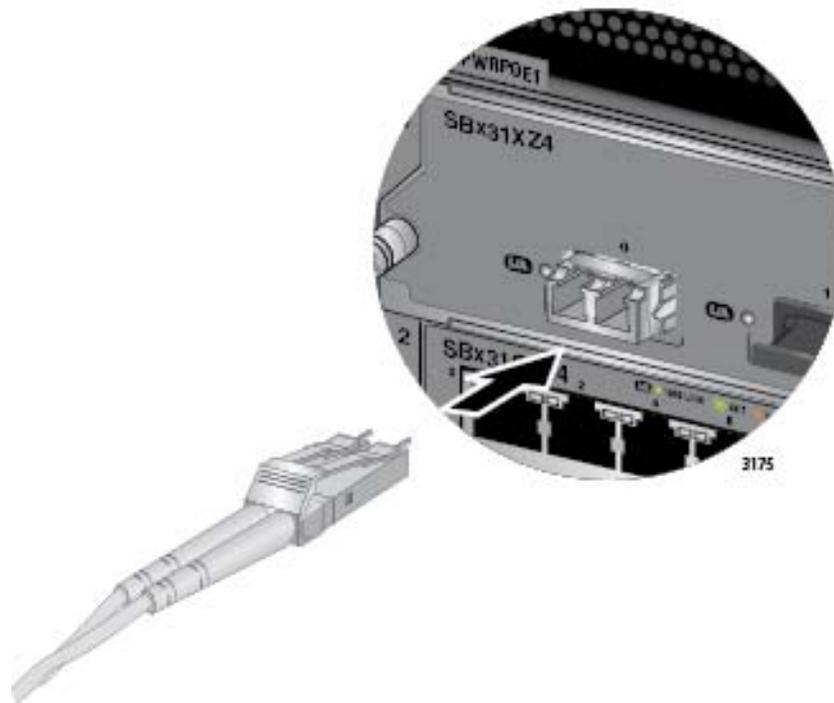

Figure 103. Attaching a Fiber Optic Cable to an XFP Transceiver in the AT-SBx31XZ4 Line Card
6. Connect the fiber optic cable to the port on the transceiver, as shown in Figure 103 on page 164. The connector should snap into the port.